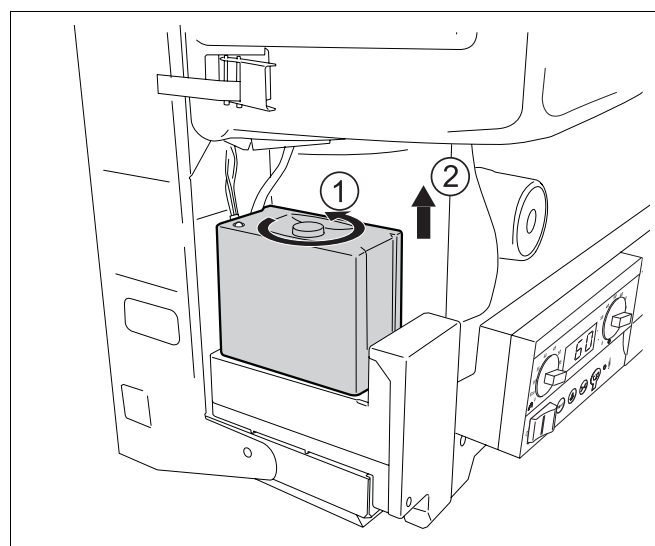

fig. 62 Remove UBA 3
- Loosen the screw (fig. 62, item 1) and remove the UBA (fig. 62, item 2). When necessary install a new UBA and secure by tightening the screw.
- If necessary remove the UBA (see fig. 62) and set the multimeter to measuring resistance. The resistance of each pole should be 0 Ω .
- Loosen the screw (fig. 62, item 1) and remove the UBA (fig. 62, item 2).
- Carry out the power test on position 15 and 16 of the high voltage pin connector (fig. 62, item 3).
- Remove the UBA (see fig. 62).